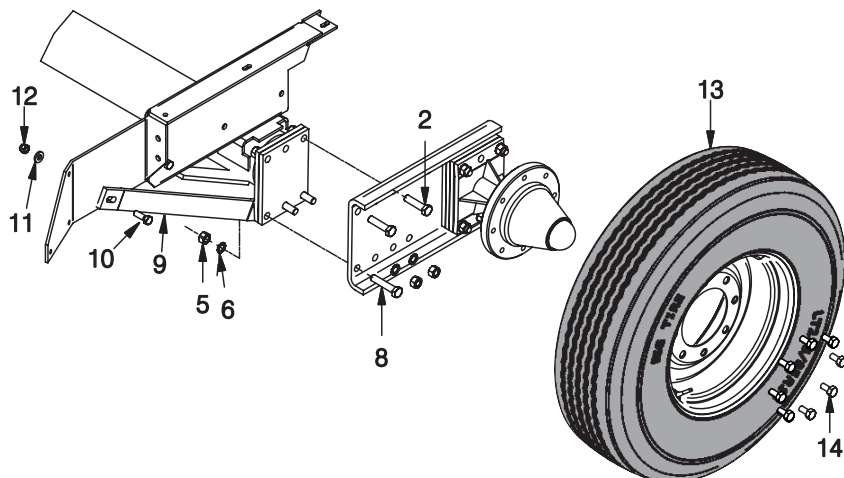

Figure 3 - Mounting the Hub and Tire
C. Place the mounting channel on the axle as shown in Figure 3. Place F000007705 RH Brace as shown in Figure 3. Torque all nuts and bolts as per torque chart on page 1. Mount the tire with the valve stem pointing to the inside of the baler. Torque lug bolts.